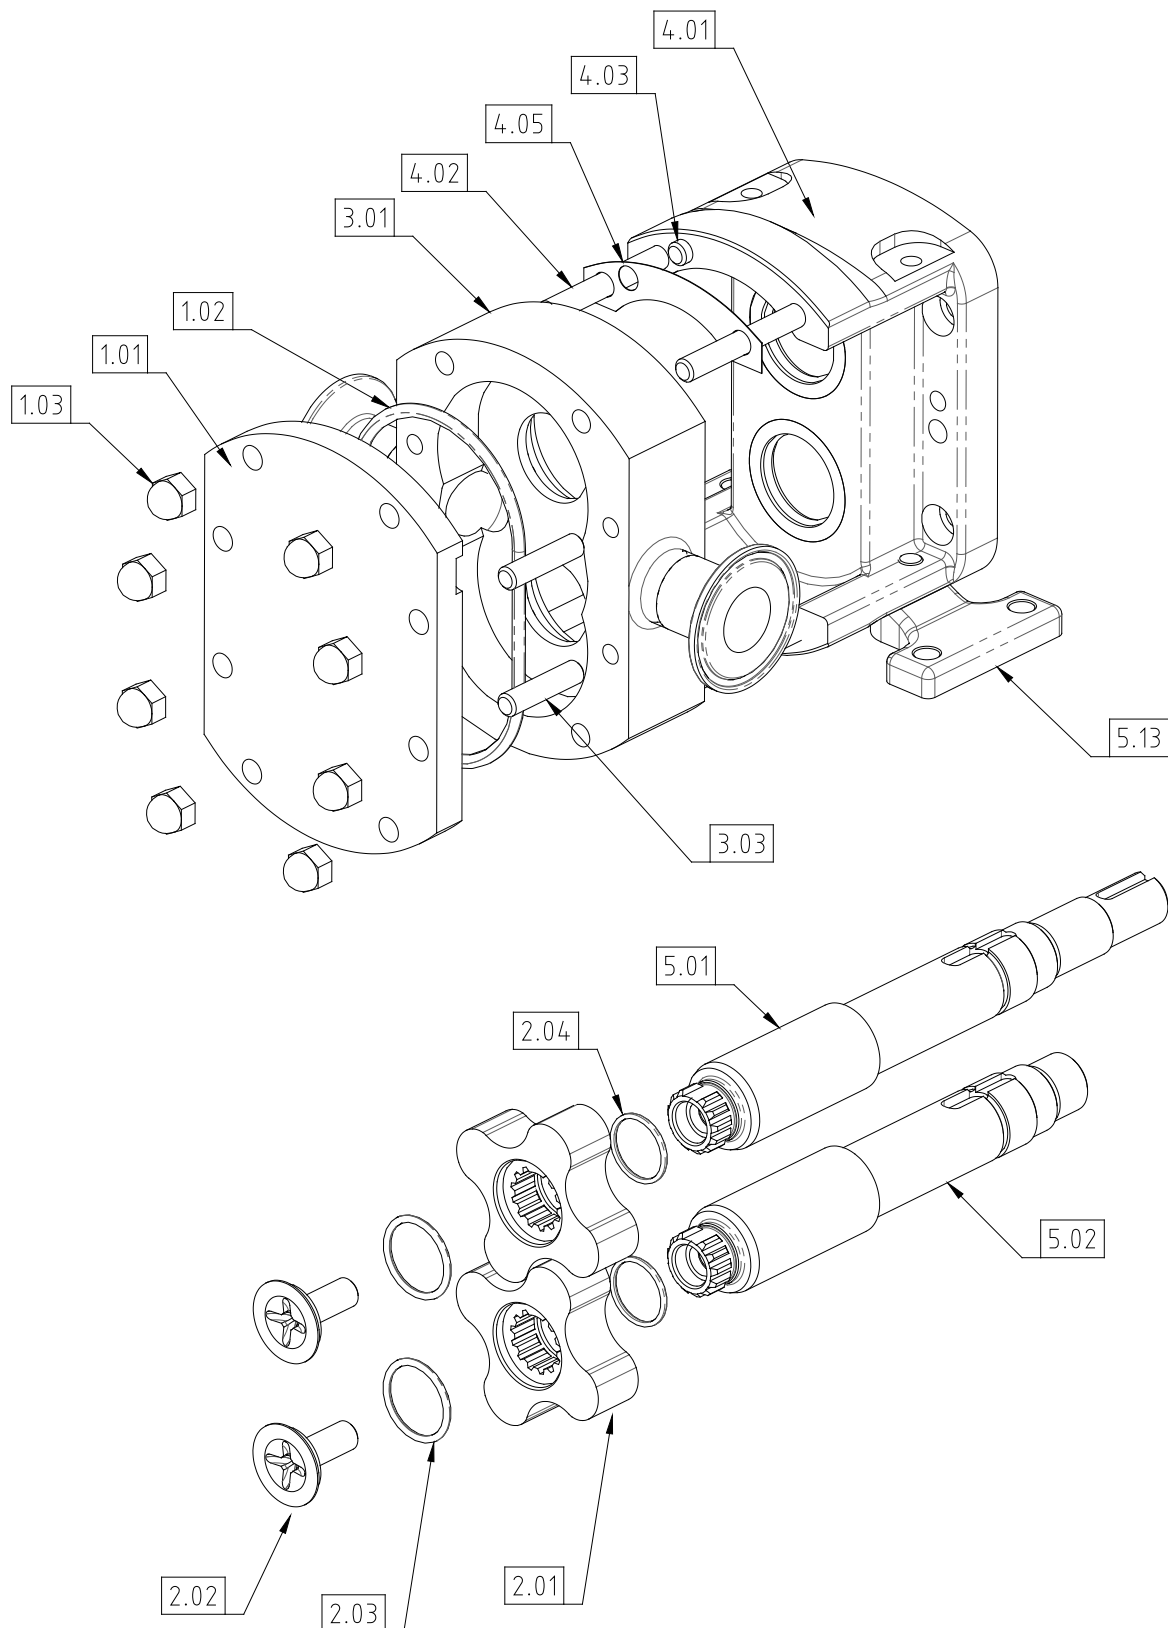

Fig 15 CP10 Exploded View of Rotorcase and Rotor Assembly
- For CP10 Pump – refer to Fig 15.
(After completing section 4.1.1) - see Fig 15.